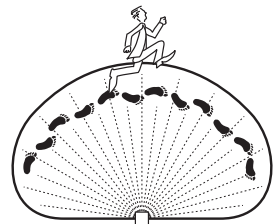

Figure 8
2. Walk through the coverage area noting where you are when the lights turn on. Also, the LED indicator behind the motion sensor lens will glow blue when motion is detected (see Figure 8).